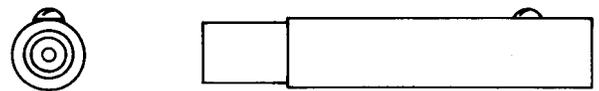

Fig. 10—466B Jack
**2.10 466B:** This portable coaxial-type patching jack (Fig. 10) is used with the KS-8086 or 724 cable and with the 337A, 337B, 342A, and 342B plugs in the L Carrier Telephone Systems. This jack replaces the 466A jack.